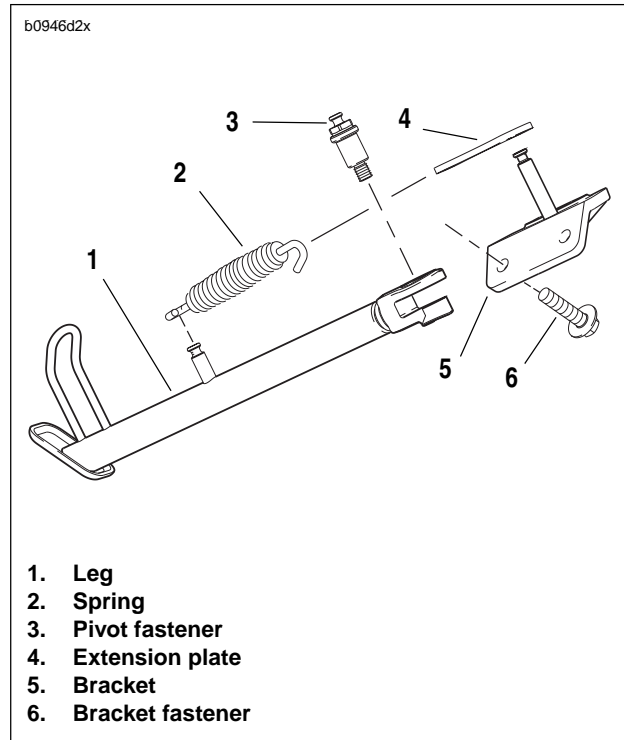

Figure 2-131. Sidestand Assembly
- c. See Figure 2-131. Install sidestand leg (1) and sidestand pivot bolt (3) tightening to 18-20 ft-lbs (24-27 Nm).
- e. Install spring extension plate (4) and sidestand spring (2) using SNAP-ON SPRING TOOL (Part No. HE-52B).